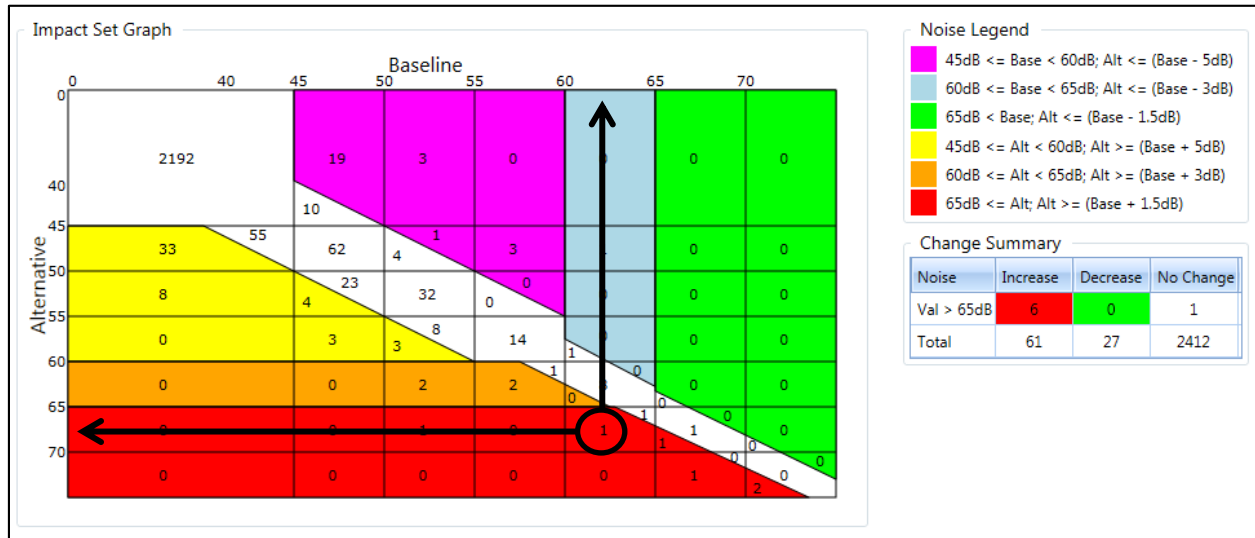

Figure 5-50 Sample Impact Set Graph
2. The color coding of warm (red, orange, and yellow) and cool (purple, blue, and green) colors allows easy reference when there has been a reduction or an increase in noise (Figure 5-50).
3. Example (Figure 5-50):